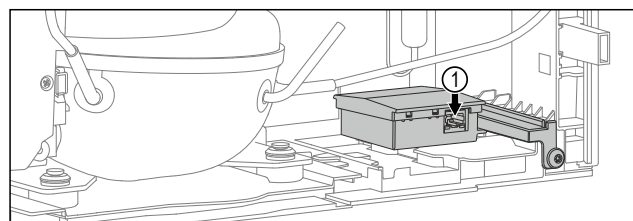

Fig. 46
- A network cable is connected. Fig. 46 (1)
- ▶ Plug in the network cable. Fig. 46 (1)